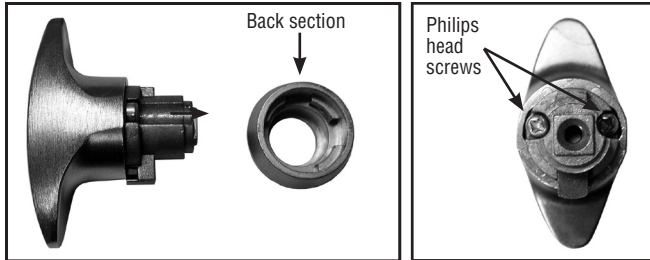

Figure 2
2. Remove the back section of the handle exposing the two philips head screws. (Fig. 2)